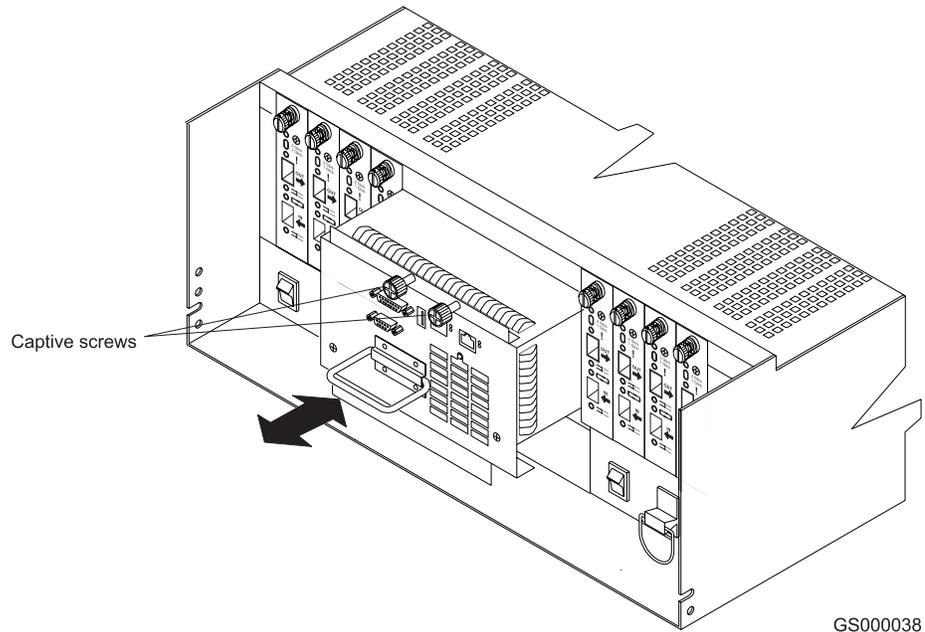

Figure 105. Removing and installing a fan and communications module
2. Remove the failed fan and communications module, as shown in Figure 105.